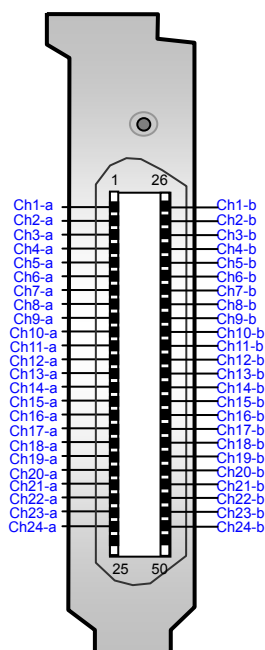

Figure 2-12
- **Interface description:** The physical pin layout of the on-board RJ-21 connector is shown in Figure 2-12. Chn-a and Chn-b are a pair of phone lines, and an RJ-21 connector can connect with 24 pairs of phone lines at a same time.
The DST-24B/PCI or DST-24B/PCI+ digital station tap board has a 50-pin RJ21 connector (often used for PBXs), which can be converted into twenty-four 2-pin RJ11 jacks through an RJ21-to-RJ11 adapter. See Figure 2-12 above for the physical layout of the connector.